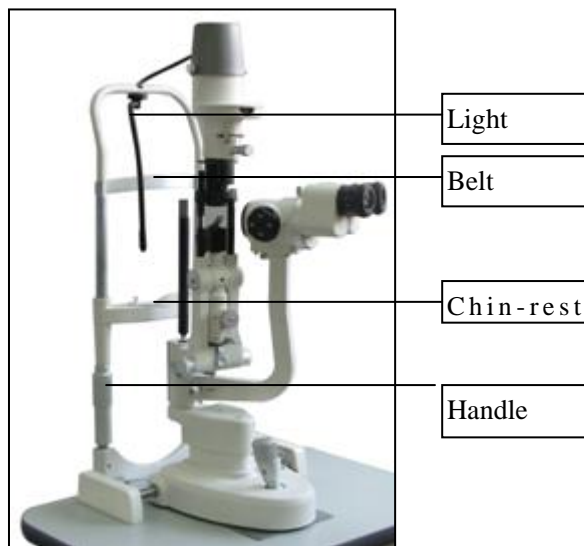

Fig.3.2.1
19. Check the fixation target device to confirm it is lighted. Ensure it can be normally lighted (Fig.3.2.1)
Place the patient's chin on the chin-rest with the forehead against the forehead-rest belt. Adjust the chin-rest elevation adjustment knob below the chin-rest until the patient's can thus align with the horizontal mark (Fig.3.2.1).
parts: Clean the plastic parts such as chin-rest bracket, forehead-rest belt with soft cloth dipped with soluble detergent or water, then sterilize with medicinal alcohol. **Attention: Don't wipe with any corrosive detergent lest that the surface should be damaged.** (Fig.3.2.1).